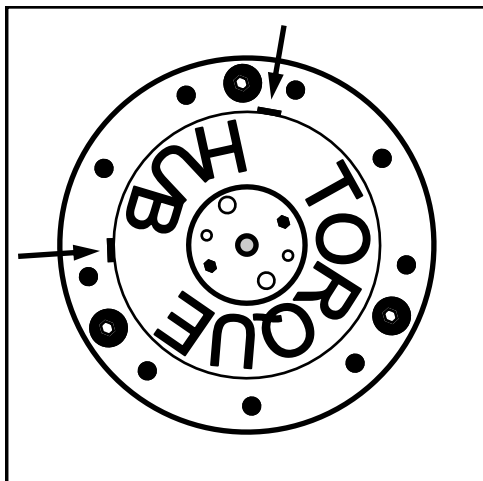

FIG 7.4
**OIL LEVEL** - Each Torque Hub® should maintain an oil level of half full at all times. Less than that would limit lubrication, and over half full could cause overheating and damage. To check oil level, position Torque Hub® so one of the drain plugs is positioned at 12 O'clock (fig. 7.4). The other plug will be either at 9 O'clock or 3 O'clock. Remove the lower plug: if no oil comes out, oil level is too low. Check Torque Hub® oil level daily.